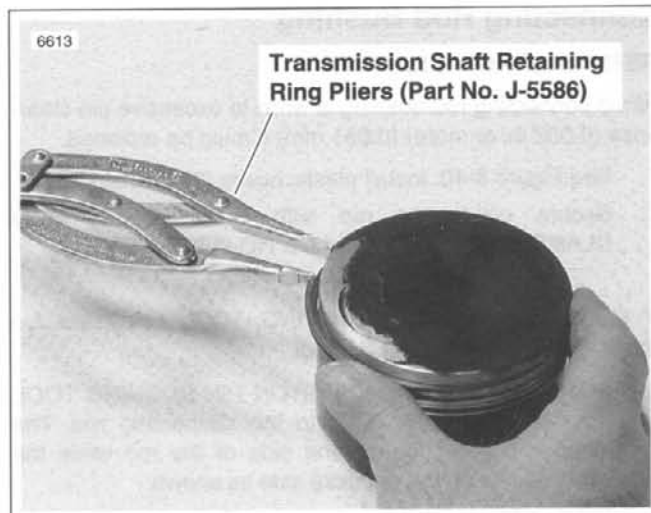

Figure 3-37. Installing Piston Rings
- See Figure 3-37. Apply engine oil to piston grooves. Use TRANSMISSION SHAFT RETAINING RING PLIERS (Part No. J-5586) to slip compression rings over piston into their respective grooves. Be extremely careful not to over expand, twist rings or damage piston surface when installing rings.